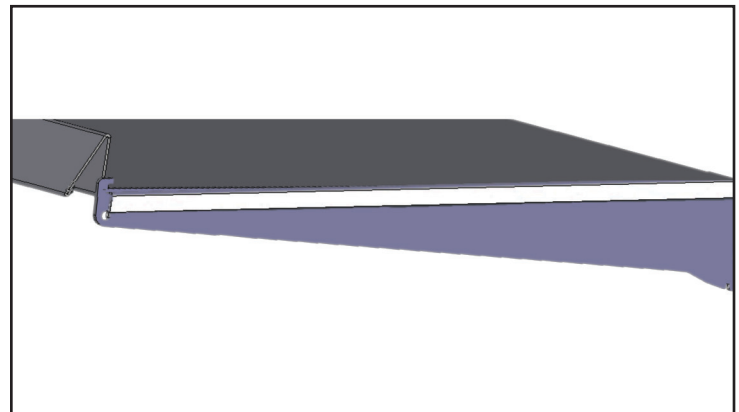

Fig. 3. Correct shelf installation
- c. Once the shelf has cleared the shelf support tab, slide the shelf forward until the front of the shelf is under the front shelf support tab. When installed correctly, the shelf will be supported between the notched areas in the shelf brackets. See fig. 3.